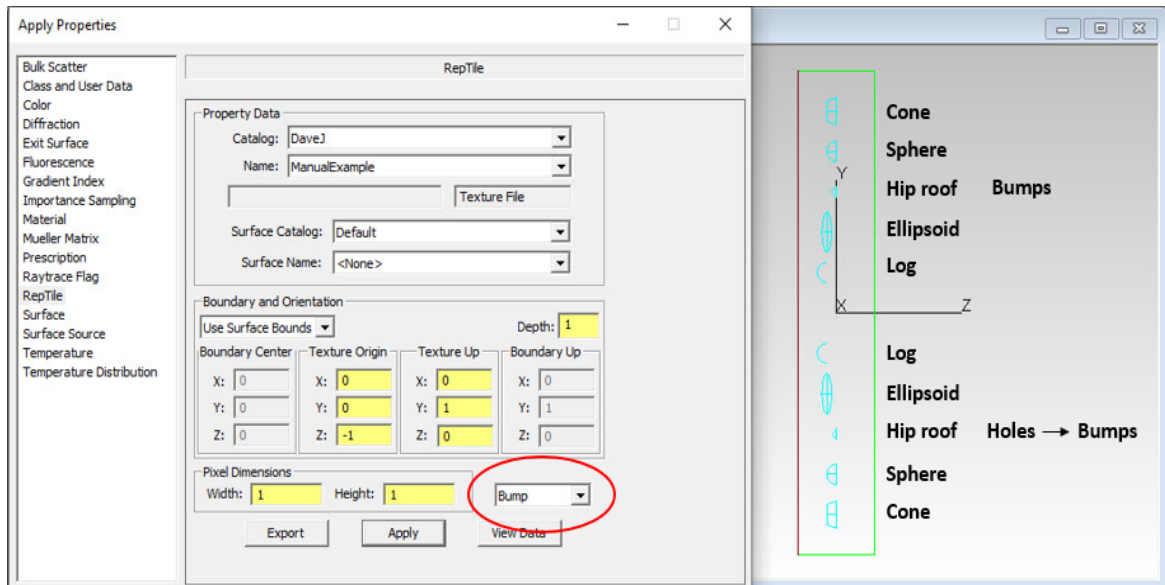

FIGURE 4.36 - Textured RepTile visualization showing the Bump orientation for a RepTile property that originally contains Holes and Bumps.
- Figure 4.36: Bump features, so all features are treated as bumps,